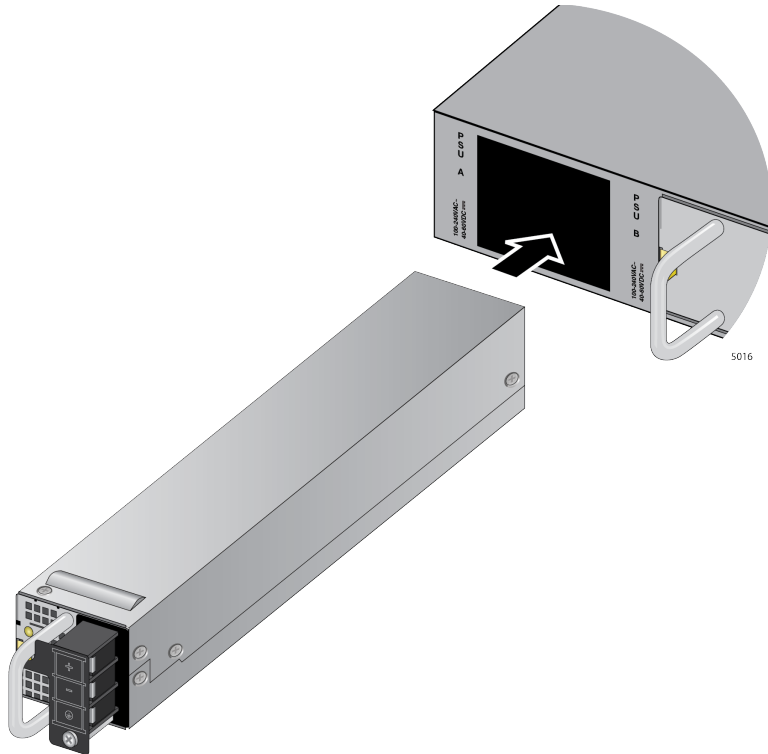

Figure 59. Sliding the PWR600 DC Power Supply into the Chassis
3. Carefully align the power supply in the slot and slide it into the slot. Figure 59 on page 125 shows the module aligned for the PSU A slot.